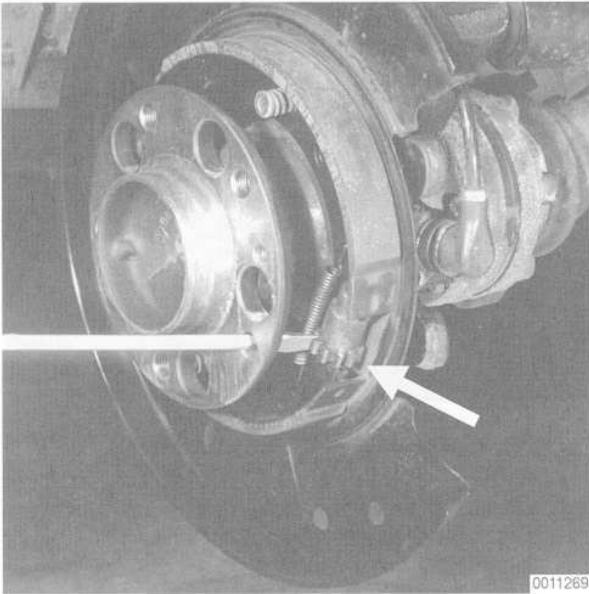

Fig. 17. Parking brake adjuster (arrow) being turned using screwdriver. Rear wheel and brake rotor shown removed.
- Using a screwdriver, turn the adjuster to expand the brake shoes until the road wheel can no longer turn, then back the adjuster off about eight (8) notches. Repeat the procedure on the other rear wheel. See Fig. 17.